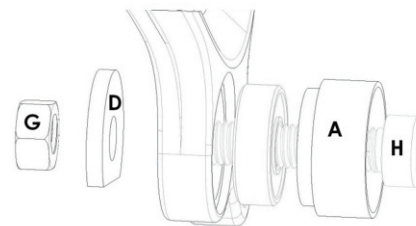

Fig. 6
2. Once you've cleaned the bearing bores, apply a small amount of grease to the inside surface of the bearing bore and the outside of the bearing. Assemble the bearing installation tool (as shown in Fig.6). Using the Allen wrench and open wrench to press (or draw) the bearing into place. Make sure the bearing is seated completely and cleanly into the link. Repeat this process for the Seat Stay Yoke bearings (Use tool "B" in place of tool "A" for the smaller Seat Stay Yoke bearings) as needed.